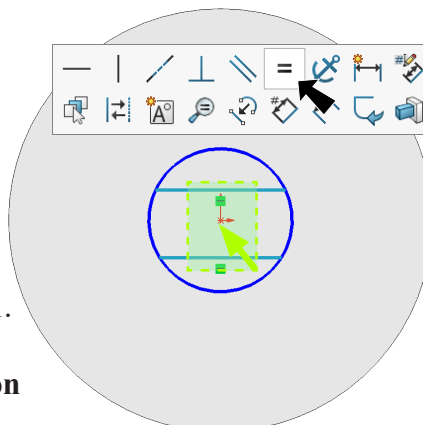
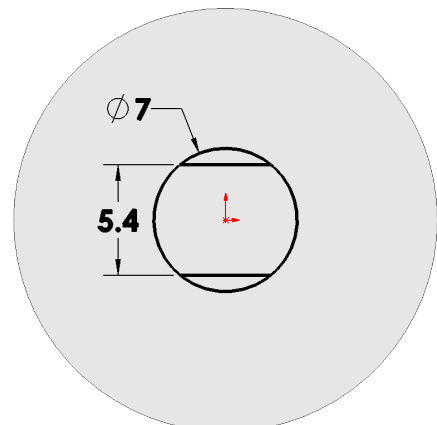

Fig. 31
Fig. 32
Step 8. **Drag selection to left to select both lines** and click **Make Equal**  on the context toolbar, **Fig. 31**.
Step 9. Click **Smart Dimension**  (S) on the Sketch toolbar.
Step 10. Add dimensions, **Fig. 32**.